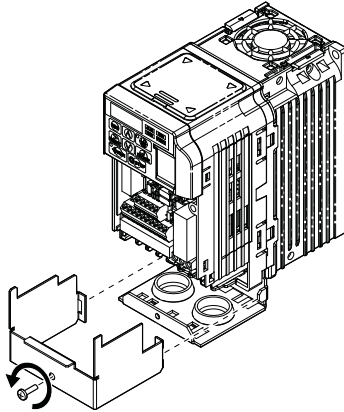

Figure 8 Remove the NEMA Type 1 Terminal Cover
6. For IP20/NEMA Type 1 enclosure models CIMR-V□□A□□□□F, loosen the screw on the front of the NEMA Type 1 terminal cover and remove it from the drive. Refer to Figure 8 for details.